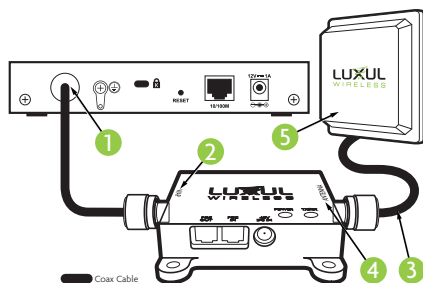

Figure 2
Using the supplied N-Male to RP-SMA-Male coax cable, connect the Shock-WAV Wi-Fi Signal Booster to your WG103's Antenna port . (Figure 2) ①. Be sure to connect the cable to the side of the Signal Booster labeled WAP ②. Next use the included N-Male to N-Male cable ③ connect the Shock-WAV Wi-Fi Signal Booster to the X-WAV XW-24-FP7 antenna ⑤. Be sure to connect the cable to the side of the Signal Booster labeled Antenna ④.